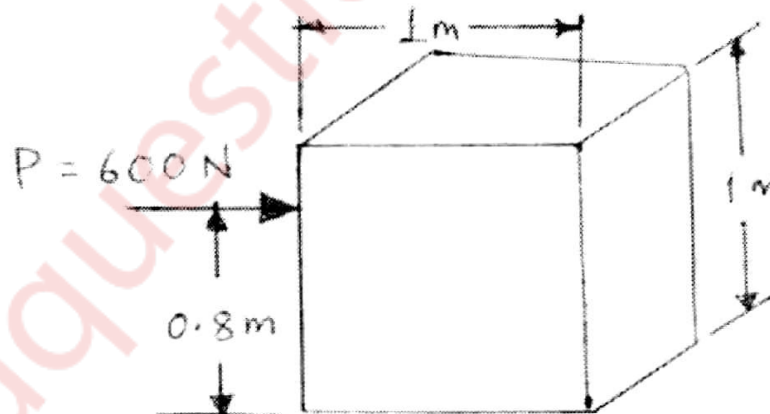

Fig. 2 Crate subjected to force
Q 4) B) A uniform 50-kg crate rest on a horizontal surface for which coefficient of friction is 0.2. Determine the crate acceleration if a force of $P = 600 \text{ N}$ is applied to the crate is shown in fig.2 (10)